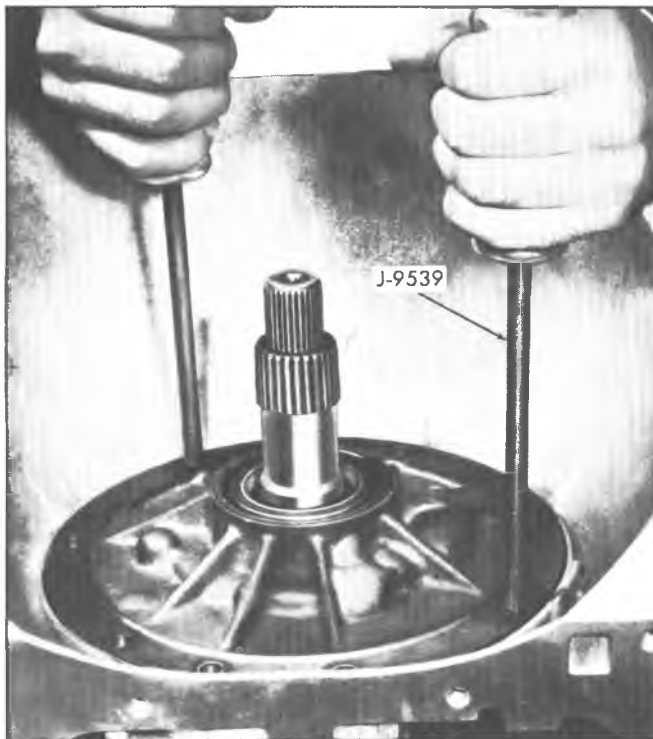

Fig. 27T--Removing Pump Assembly
3. Install two 3/8"-16 threaded slide hammer bolts, J-9539 with weights J-6585-01, into bolt holes in pump body and remove pump assembly from case (fig. 27T). (See illustration for location of threaded holes.)